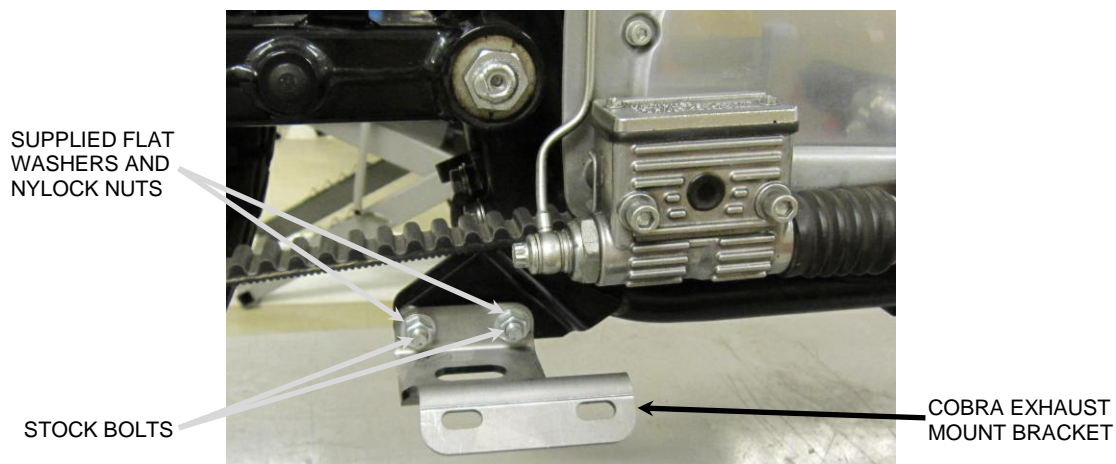

FIGURE 1
4. Install the supplied exhaust mount bracket as shown in **FIGURE 1** using the stock bolts and the supplied washers and nylock nuts. See **FIGURE 1**. Tighten the bolts to factory specifications.